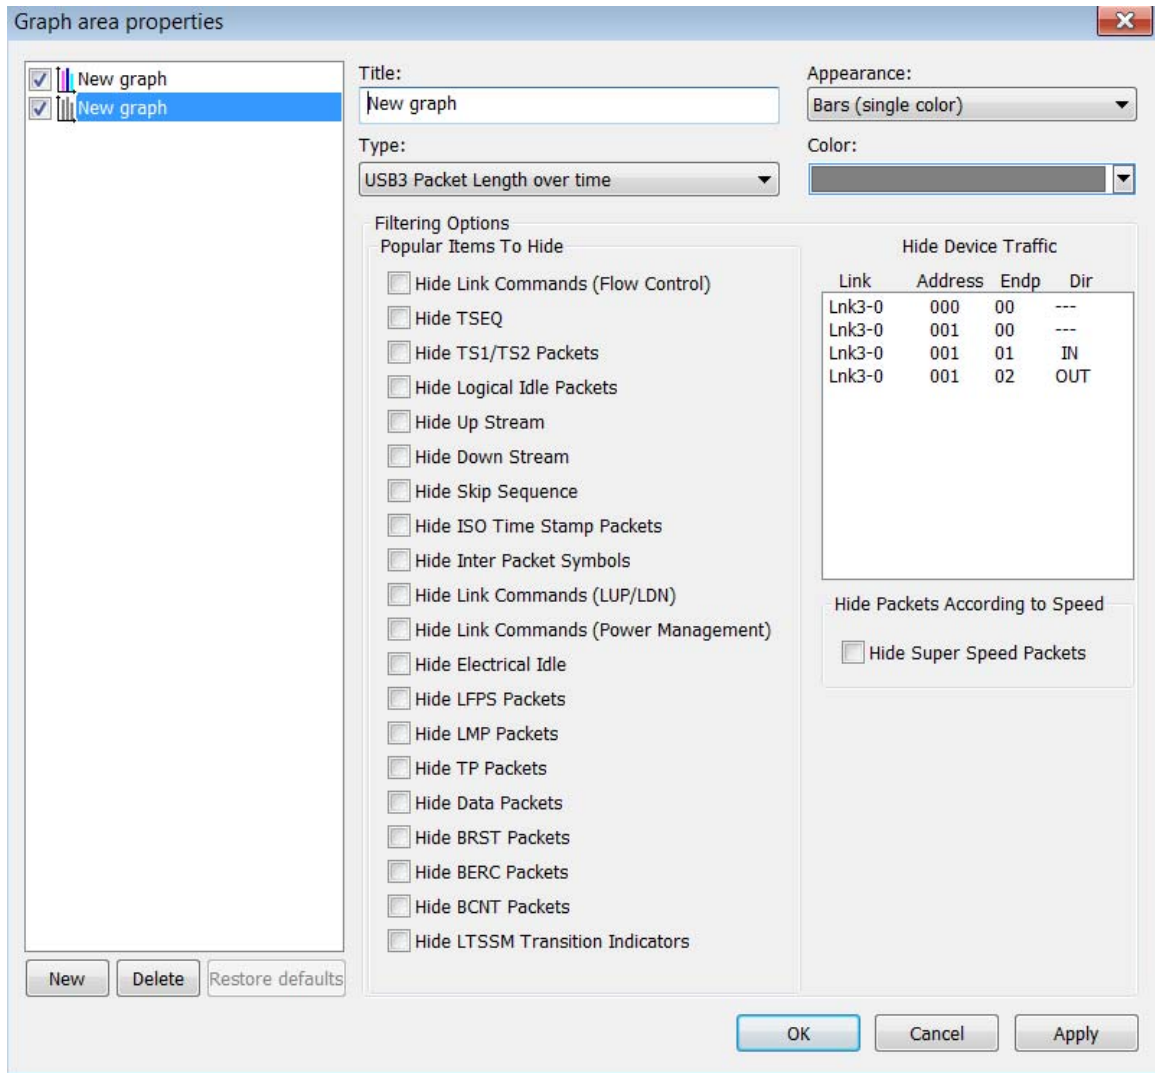

Figure 9.22: Graph Area Properties Dialog
1. In the Graph Area properties dialog box (see Figure 9.22 on page 238), select the options to display in the graph display, then click **OK**.
2. In the Graph Area properties dialog box (see Figure 9.22 on page 238), select the options to display in the graph.